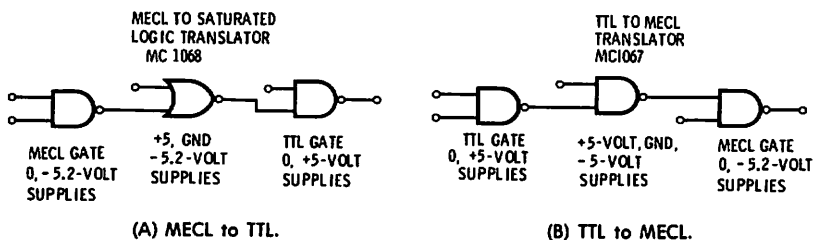

Fig. 1-16. TTL emitter-coupled logic interfacing.
**MECL and ECL**—Emitter-coupled logic families (Fig. 1-16) have unique logic swings, and it is difficult to build simple interfacing. Instead of this, commercial IC logic translators that do the job quickly and reliably are readily available.